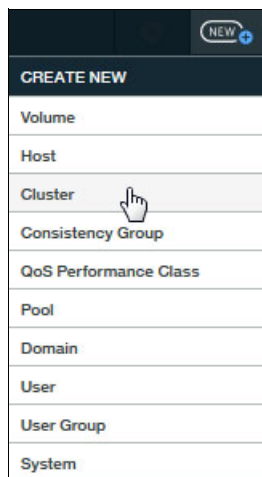

Figure 2-5 Creating a cluster
1. Click **NEW +** → **Cluster** to create a cluster, as shown in Figure 2-5.